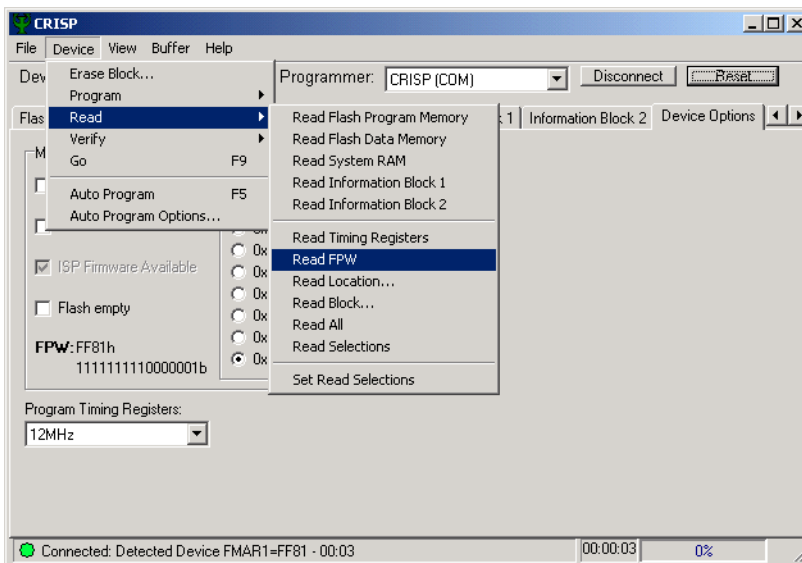

Figure 6-11. Selecting the Read FPW Command
1. **Initiate Protection Word Read.** Select the Device -> Read -> Read FPW command, as shown in Figure 6-11.